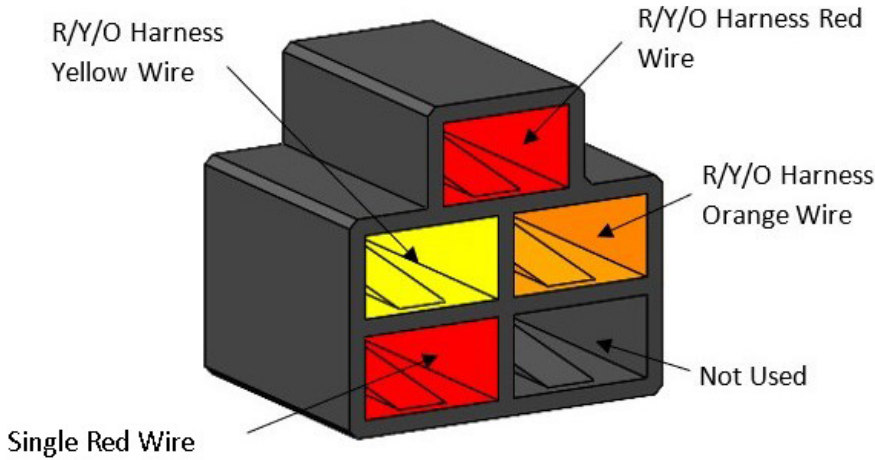

FIGURE 13
37. Locate the 36" Wiring Harness and ensure the wires are correctly connected to the 5-Pin Black Connector as shown in **FIGURE 13** and the 4-Pin White Connector as shown in **FIGURE 14**.